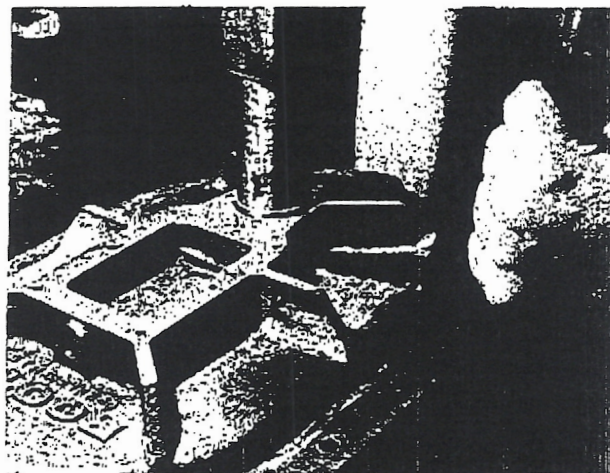

Figure 4 — Installing New Outboard Seal Before Mounting End Cover on Booster
3. Install the new *outboard* seal from the outside or front face of the end cover, after preparation as above. Installation may be made either before or after the end cover is reinstalled on the headplate. If before, follow the procedure outlined in Step 2 for arbor press work except with the end cover front face up. See Figure 4.